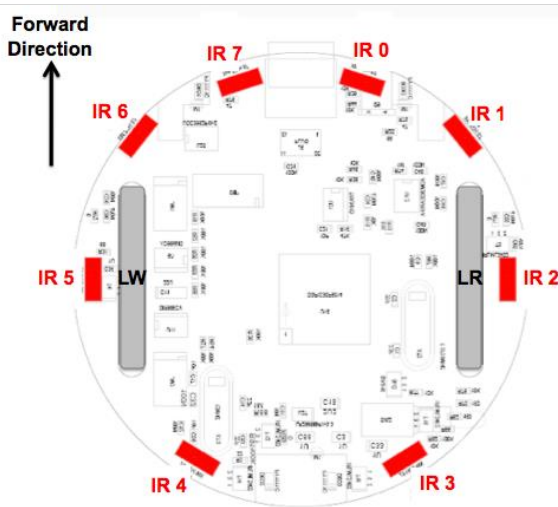

Figure 5: e-puck proximity sensors.
13. **(Q):** What is the influence of the parameter, say,  $\alpha_{\text{left},0}$  on the speed of the left wheel? *Hint: explain what happens if  $\alpha_{\text{left},0}$  is large or small when an obstacle is detected by the proximity sensor  $\text{ps}_0$  (recall Figure 5).*
14. **(I):** Modify the parameters of the controller `e-puck_braitenberg.c` so that you achieve these behaviors (see note in code and refer to Fig. 5 for sensor placement):